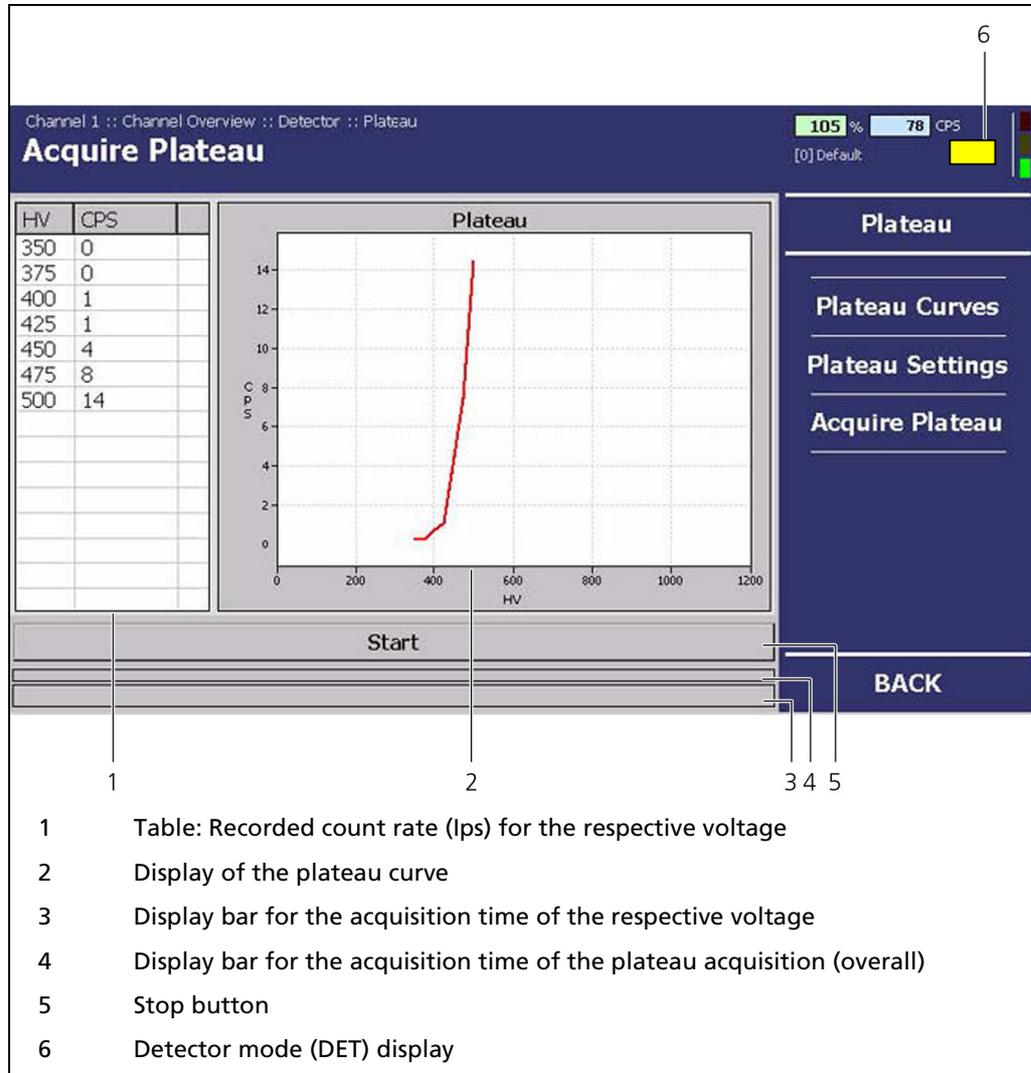
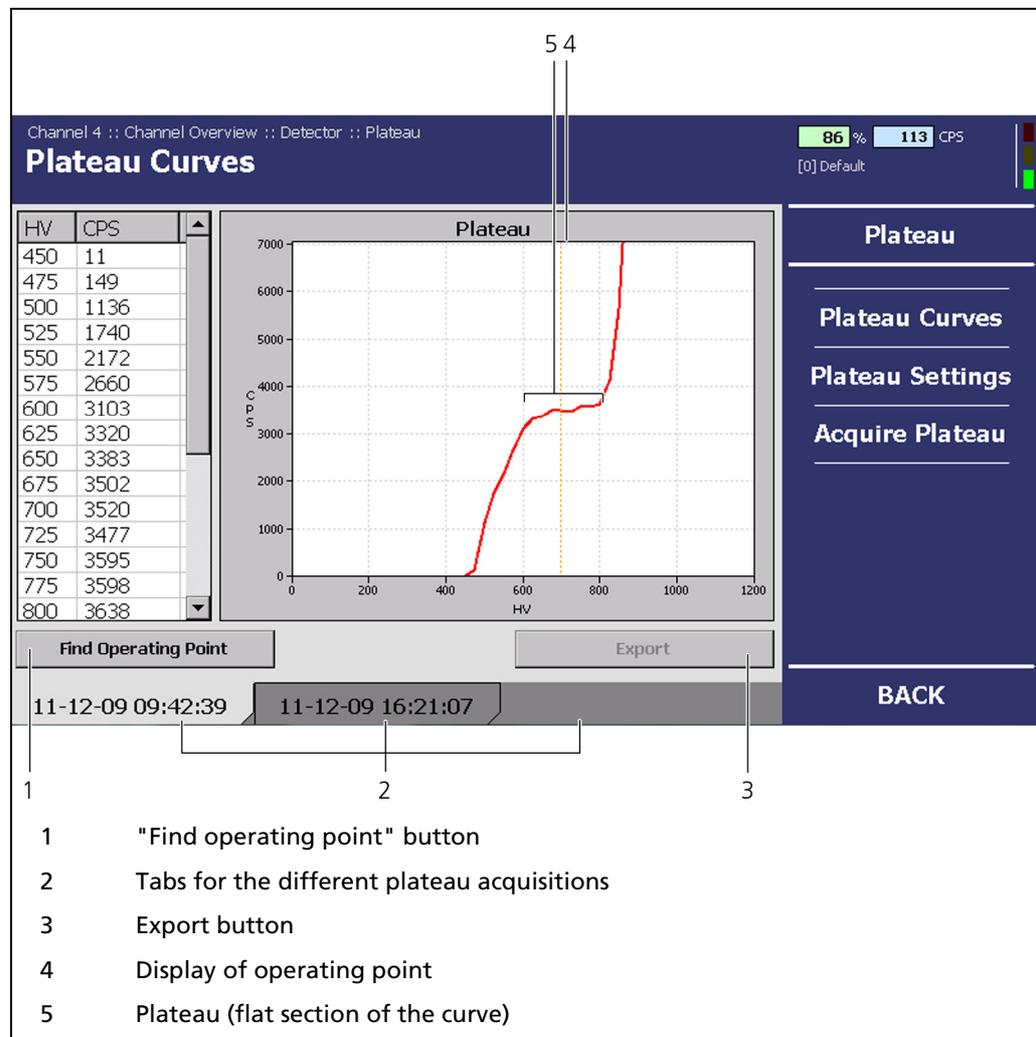

Fig. 21 "Channel Overview" menu, Detector - Plateau (Plateau Acquisition)
Fig. 22 "Channel Overview" menu, Detector - Plateau – (Plateau Curves)
⇒ The recorded values are read in and entered into the table (Fig. 21, pos. 1) and the plateau curve is drawn and automatically saved.
- **Display of different plateau curves** (Fig. 22, pos.2). The tabs will only appear, if you have already acquired several plateaus.
- **Finding the operating point** (Fig. 22, pos.1) using the different plateau curves (if you have acquired several curves).
- ⇒ The "Plateau Curves" submenu opens (Fig. 22).
3. Click on the button **<Find operating point>** (Fig. 22, pos. 1) in order to create a new operating point.
1. Click on the button **<Export>** (Fig. 22, pos. 5) in order to export the data (table Fig. 21, pos.1) of the plateau acquisition.